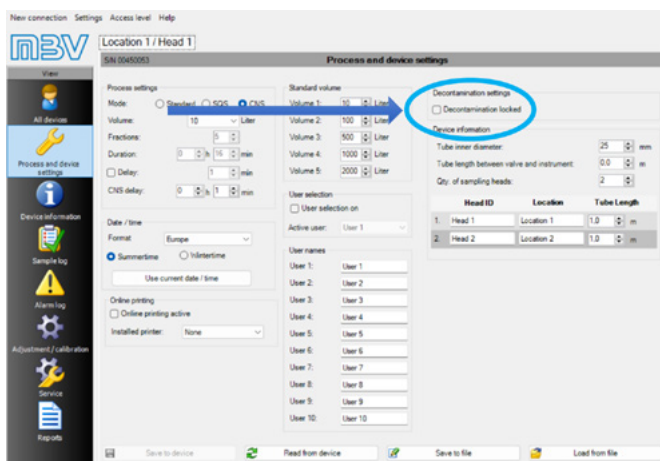

Figure 8: C&C software - Decontamination mode enabled
- To use the decontamination mode for decontamination to be performed before sampling, uncheck the 'decontamination blocked' box (Figure 8).